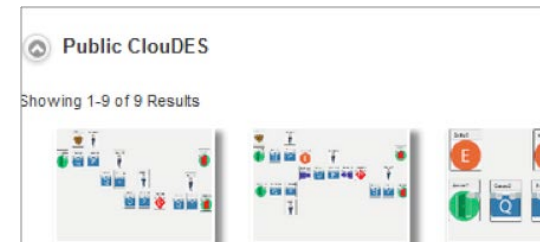

Figure 11. Public Simulations
2) In **cloudes** Exploration Section (Figure 11) select one of the public simulations (Public **cloudes**).